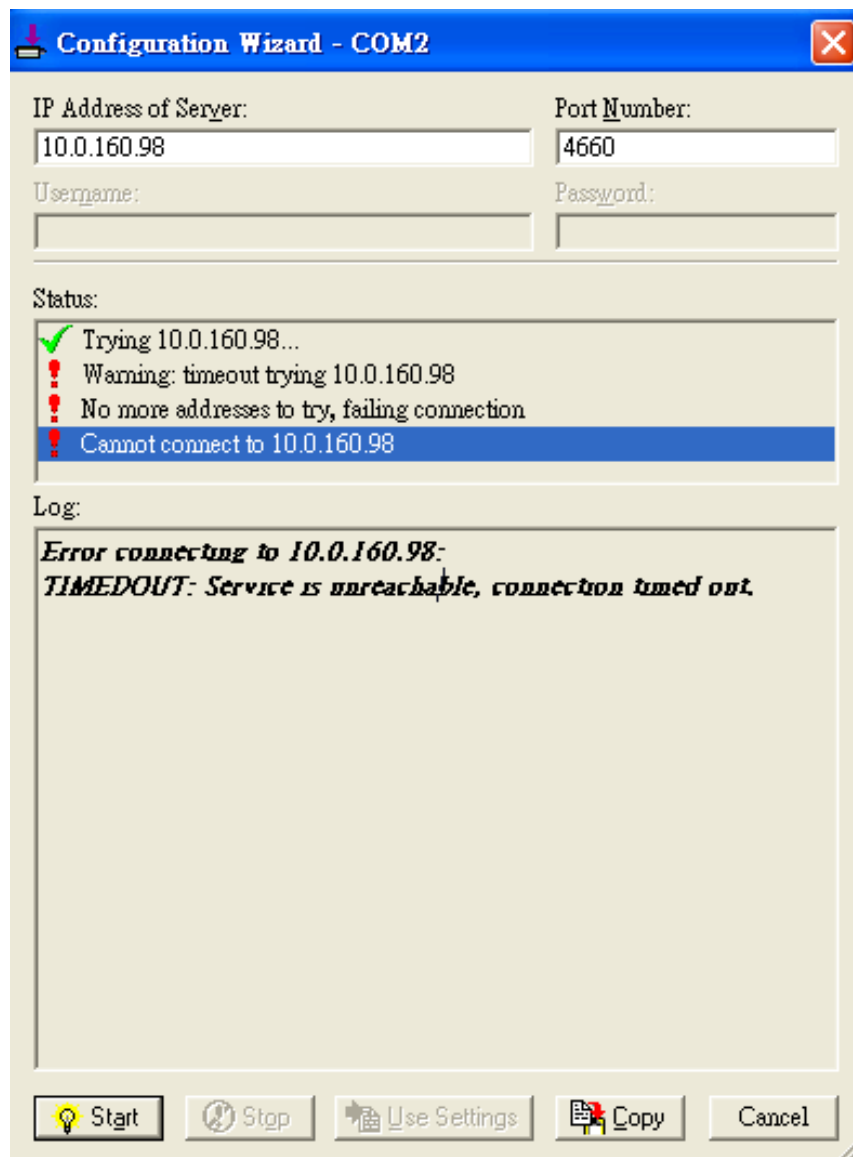

Figure 6.11 Timeout Warning on VCOM Connection
- If the status reports with an exclamation mark with a message “Warning: timeout trying x.x.x.x” as shown in Figure 6.11, please recheck or correct the VCOM IP address and Port number configuration or the PC’s network configuration.